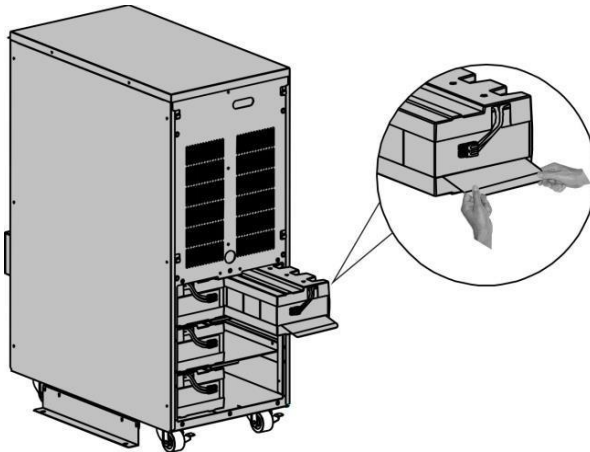

Fig. 8-3 Battery easy replacement-Step 3
- 3) Remove the battery pack from the cabinet. See Fig. 8-3.